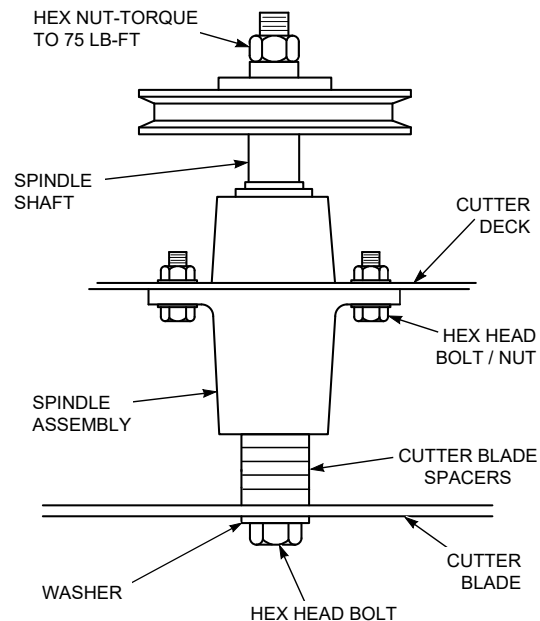

Figure 7-4. Blade Replacement
3. Secure the cutter blades to prevent them from rotating, (use the optional Blade Buddy tool P/N 9212, to assist in securing the cutter blades), remove the blade attaching bolt. Remove the cutter blade, bolt, lockwasher and flatwasher from the spindle shaft. See Figure 7-4.
4. Install the cutter blade on to the cutter spindle shaft. Secure the blades from rotating and torque to 75 ft/lbs. See Figure 7-4.